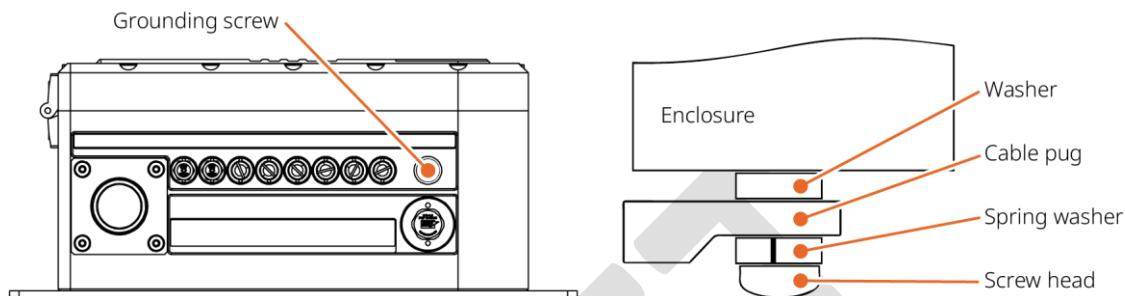

Figure 23. Grounding the DynamiQ-X.
The DynamiQ-X instrument must be grounded before installation and commissioning for safety reasons. Grounding is achieved by connecting the grounding screw to a central grounding point, see Figure 23. The grounding screw is at the right side of the gas connections and indicated with the \perp symbol. The screw is M6, and an associated lug should be used in between the two washers, see Figure 23. The minimum permissible cable cross-section is 4 mm².
1. Ensure proper grounding by connecting the grounding screw to a central grounding point, see Figure 23.